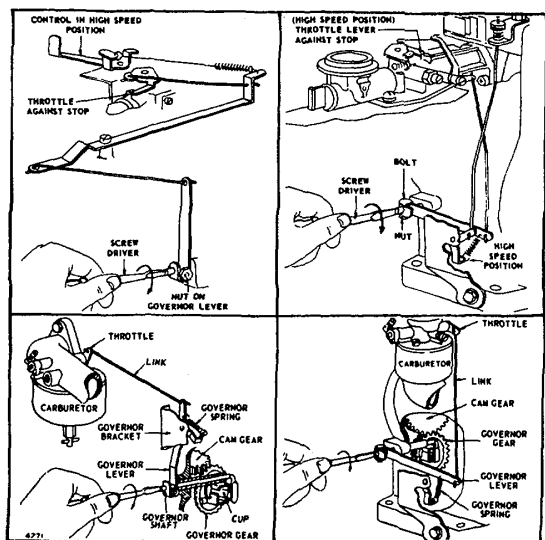

Fig. 20. Adjust Governor
Loosen screw holding governor lever to governor shaft. Place throttle in high speed position. While holding throttle in this position and with a screwdriver turn governor shaft clockwise as far as it will go. Tighten screw holding governor lever to governor shaft to 35-45 in. lbs. (.4-.52 mkp or 4.0-5.0 N•m) torque. See Fig. 20.
1. Set control lever to maximum speed position, with engine running. See Fig. 20.